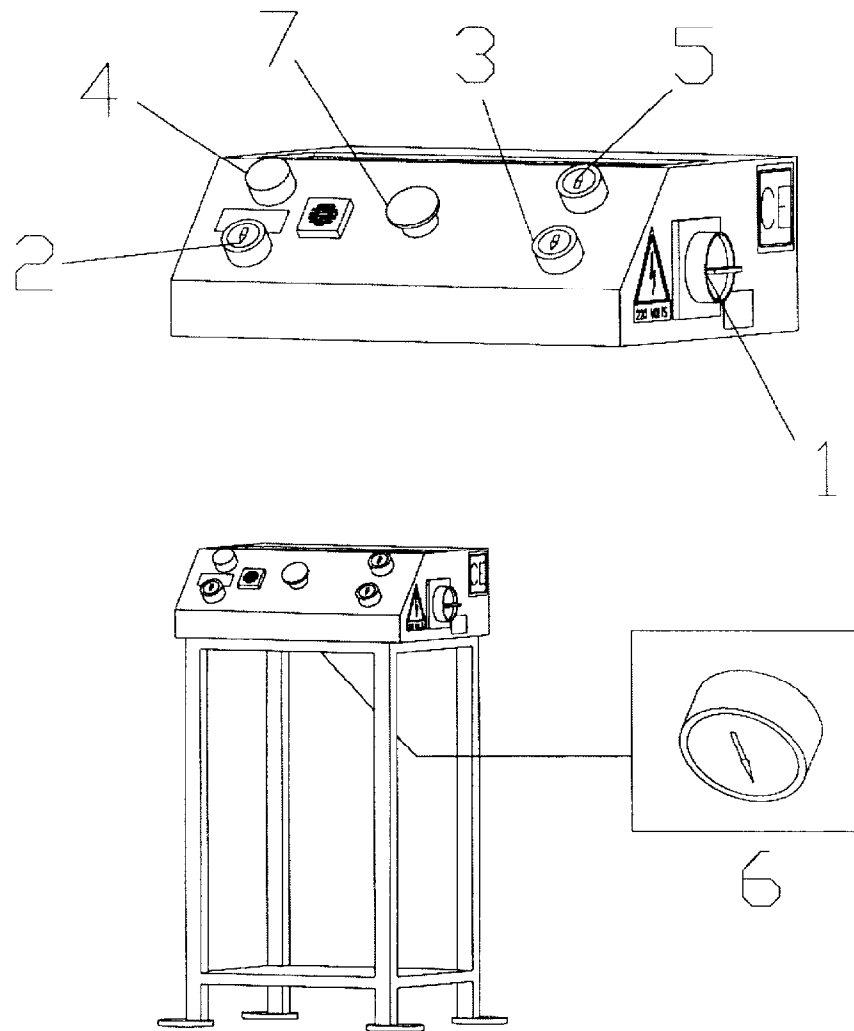
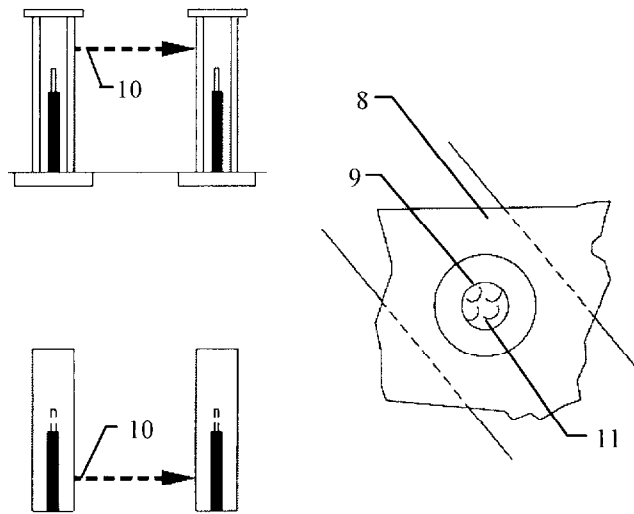

Fig. 5 Power unit and related controls
Fig 9: Photocell Test
When all the lines are connected, turn on the main switch (**Fig 5, Item 1**). Set the SELECTION switch to the required position, and check the correct direction of rotation (counterclockwise) of the motor of the hydraulic unit by pressing the UP key (**Fig 5, Item 5**). If the direction of rotation is not correct, interchange the two phases of the main switch.
5. To raise the runway P1 to the final top position, press the UP key (**Fig. 5, Item 5**) and the RELEASE key simultaneously (**Fig. 5, Item 6** - having removed the front panel of the control desk). Hold it pressed until runway P1 and P2 are fully raised at the final top position. On reaching the final top position, keep the keys pressed for a further 10 - 20 seconds to bleed the hydraulic system.
4. Check the pneumatic control operations for proper performance. By pressing the DOWN key (**Fig. 5, Item 3**), the gear racks are disengaged.
5. Press the DOWN key (**Fig 5, Item 3**), and lower the runways completely.
- Check the photocell monitoring device for correct performance (**Fig. 5, Item 7**). To do so, obtain a sheet of cardboard or paper having a size of approx. 4" x 4" (100 x 100mm) (**Fig. 9, Item 8**), with a hole of approx. 1" (25mm) in diameter (**Fig. 9, Item 9**). Raise the lift until the photocell and the opposite reflector are no longer concealed by the lifting scissors. In this position, place the hole of the sheet of cardboard or paper in the centre of the reflector (**Fig. 9, Item 11**).